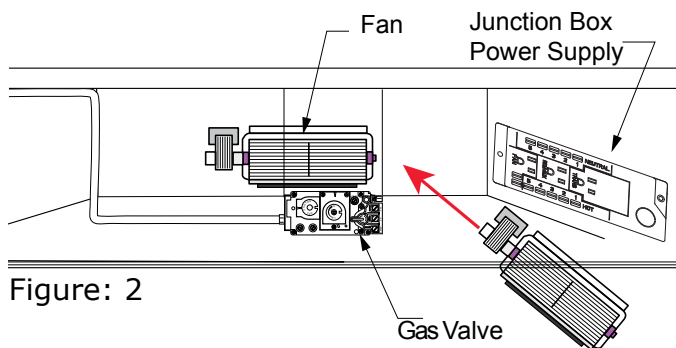

Figure: 2
Step 3: Under Firebox, wipe off the area where the Fan will be mounted, this will allow the velcro to take hold. Visualize a pathway for the blower to reach the back. Remove the clear backing of the velcro strips. (Figures: 2 , 3 & 8)
Hold blower assembly so fan blades face up. Slide blower assembly through bottom vent space; as the blower reaches the back - rotate blower, position blower parallel against back wall in center. The air exit port will face up and velcro strips will affix blower to back wall. (Figures: 2, 3 & 8)